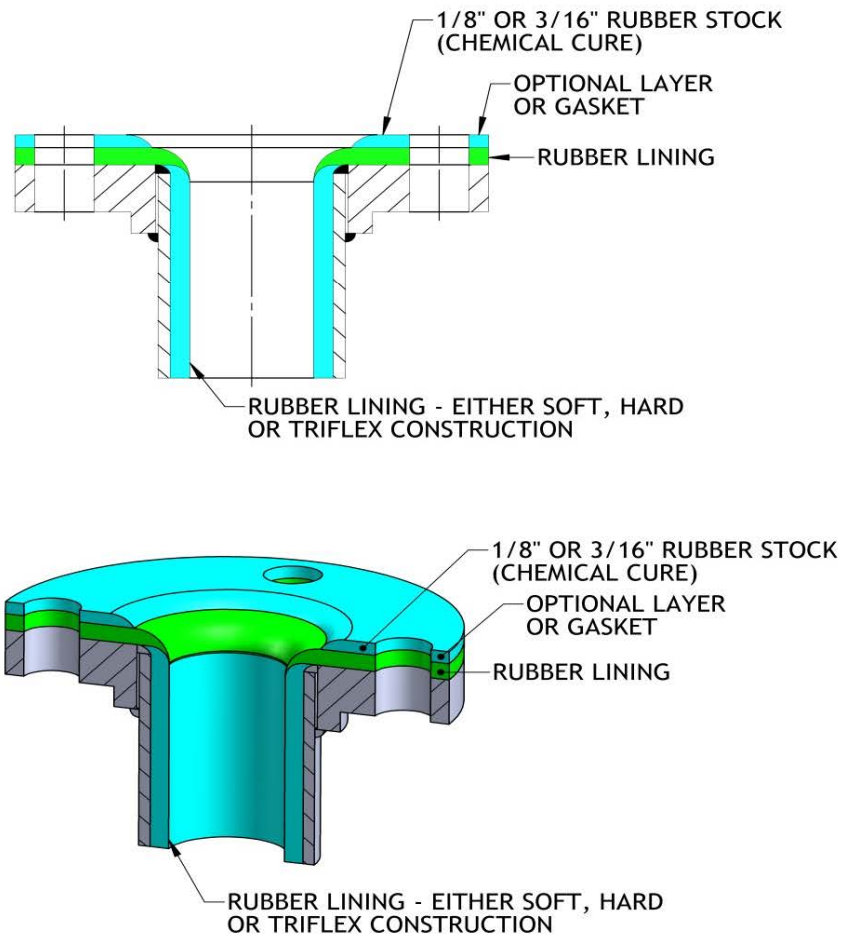

Fig. 10-4 Internal steam cure vessel - Flange detail for outlets
5.8 Manway flanges on autoclave and atmospheric cured tanks should be covered full face with lining stock and lapped 2" onto manway throat lining. On internal steam cured tanks, the manway and nipple outlet flanges can be covered as outlined in Fig.10-3, Fig.10-4 and Fig.10-5.
There are many ways to line flanges. The following diagrams (Fig. 10-3, Fig. 10-4 and Fig. 10-5) provide possible options however end-user specifications, materials used and service conditions should all be considered to determine the appropriate method.